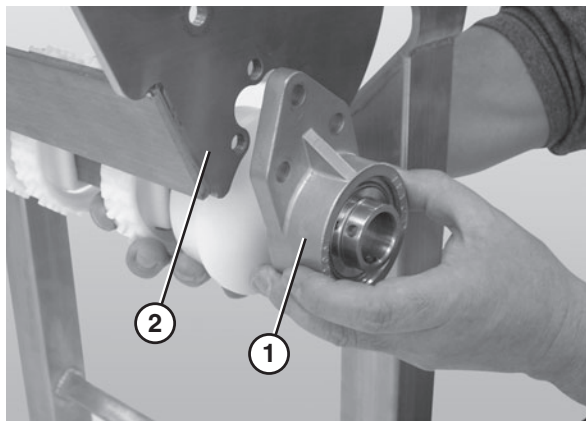

Figure 71
7. Disconnect the 3 hole flange bearing (**Figure 71, item 1**) from the nose bar drive weldment (**Figure 71, item 2**).